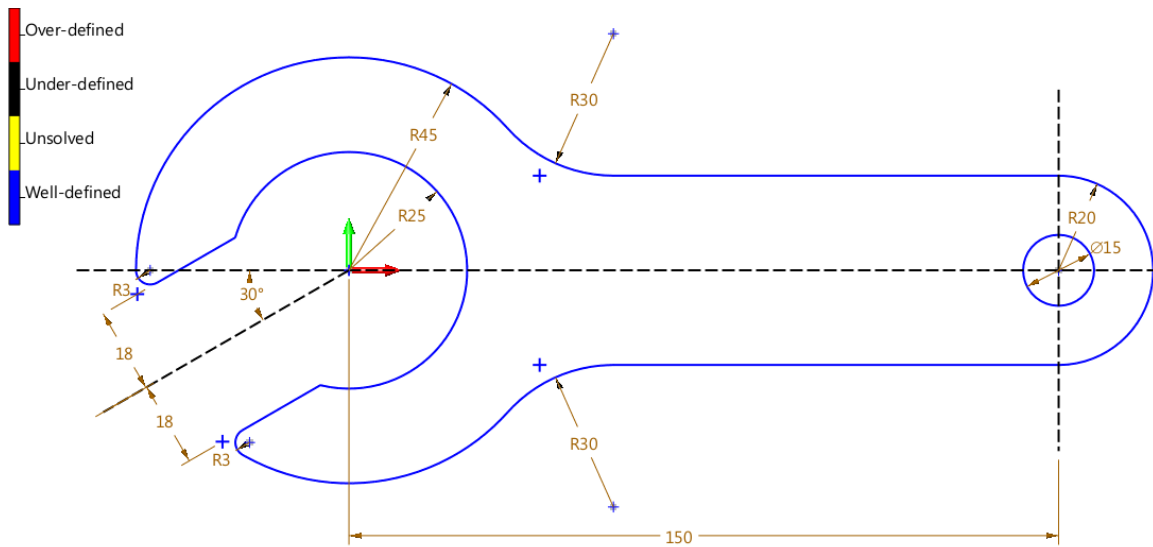

Figure 107 Final Sketch
**STEP 11** Add the needed fillet between the lines. The Figure 107 shows the final result.